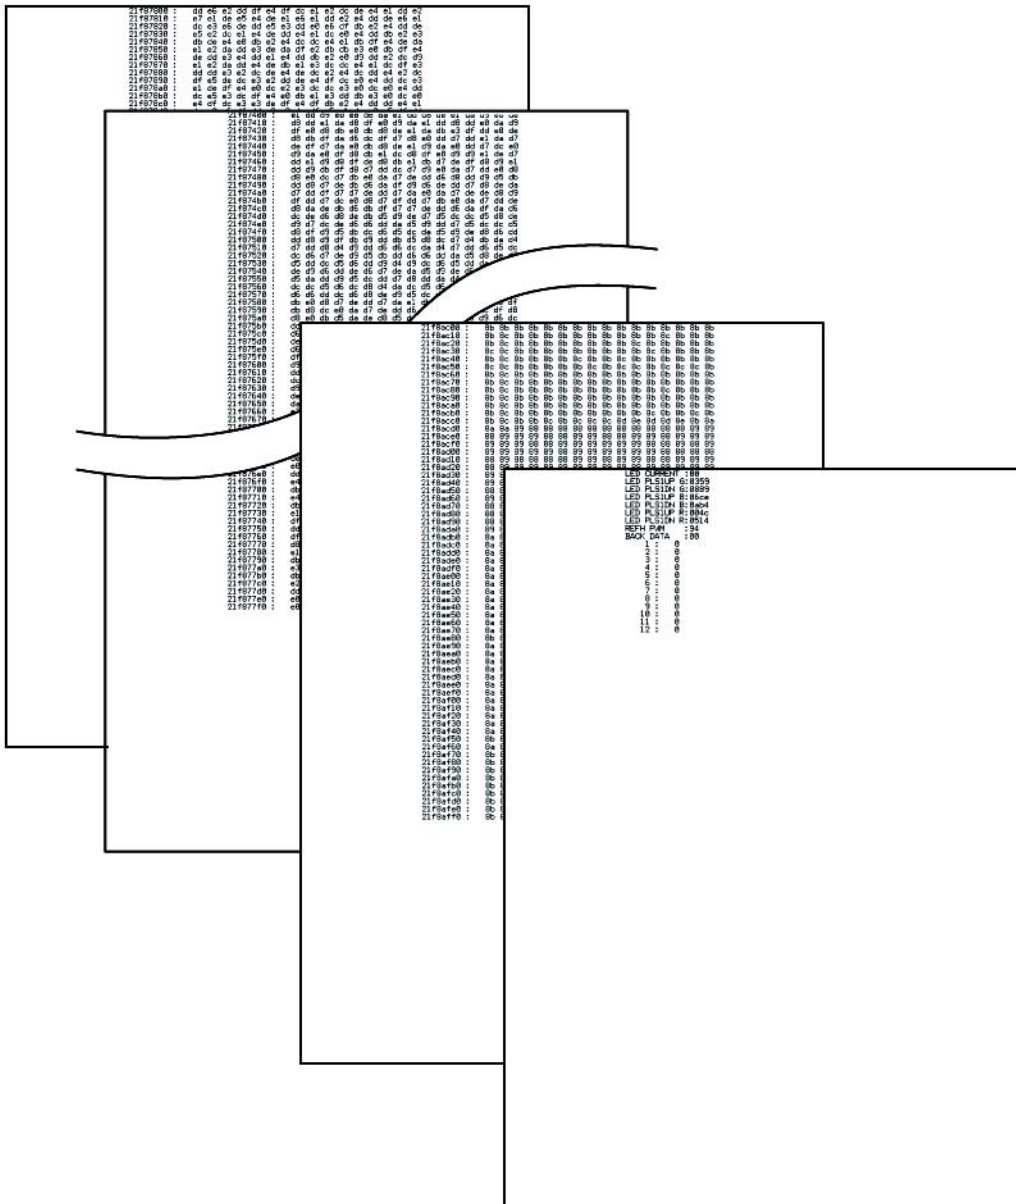

Fig. 5-1
- (1) For white and black scanning, copy the document. For color scanning, implement color copy of the document.
- (2) Press the **0** and **5** buttons in this order in the initial state of the maintenance mode. In the case of the model without the numeric keys; Press the **▲** or **▼** button. The "MAINTENANCE 05" appears on the LCD. Then press the **OK** button. The "PRINTING" will appear on the LCD, and the equipment prints out the scanning compensation data list (Refer to Fig. 5-1) containing the following: